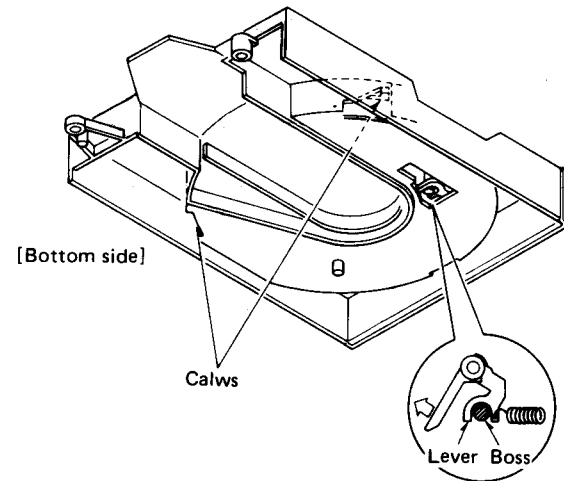

Fig. 12
- * It can be easily set by pushing the lever in the direction of the arrow. [Fig. 12]